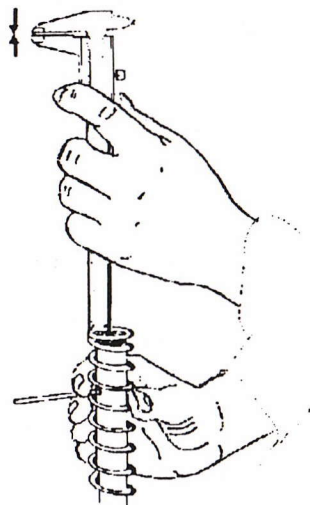

Figure 5.
- Measure the distance by which the spring protrudes, using a vernier caliper (see Fig. 5).